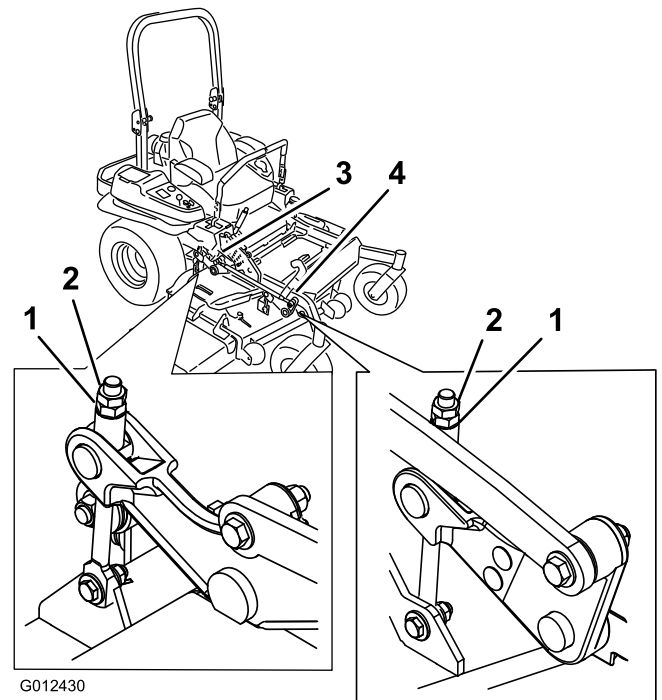

Figure 90
- 10. For mower decks shown in Figure 90, fine-tune the adjustment nut on the front deck lift assembly by turning it.